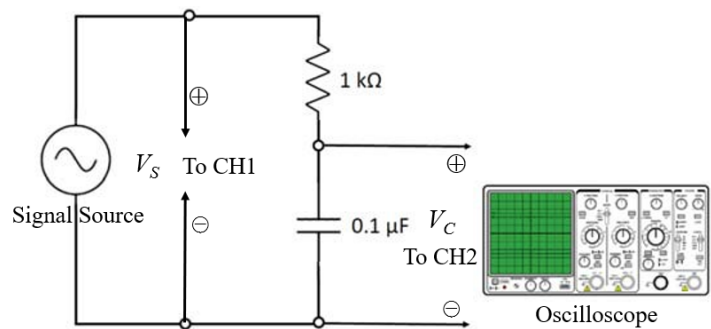

Figure 4. Measurement of voltage V_C across the 0.1- μ F capacitor.
- (5) Now measure V_C across the 0.1- μ F capacitor with CH2 of the oscilloscope, as shown in Figure 4. Fill in the columns (both magnitude and phase angle) of V_C in Table I.
- (6) Let $Z_{\text{Total}} = R + jX_C$, where $R = 1 \text{ k}\Omega$ and jX_C is the reactance of the capacitor given by $X_C = V_C/I_R$. Fill in the columns of “Measurement ($Z_{\text{Total}} = R + jX_C$)” and “Theoretical Reactance (jX_C)” in Table I.
- (7) Repeat steps 1 to 6 and fill in the table for the following frequencies: 1 kHz, 2 kHz, and 5 kHz.